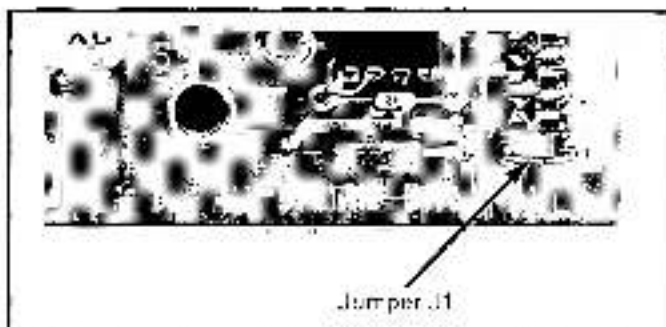

Figure 4 — Jumper J1 on Reference Receiver Module
8. If an AUTO/MANUAL selector switch is included in the Operator Control Station, cut jumper J1 on the Reference Receiver Module. Refer to Figure 4. Also cut jumper J4 at Regulator Module.